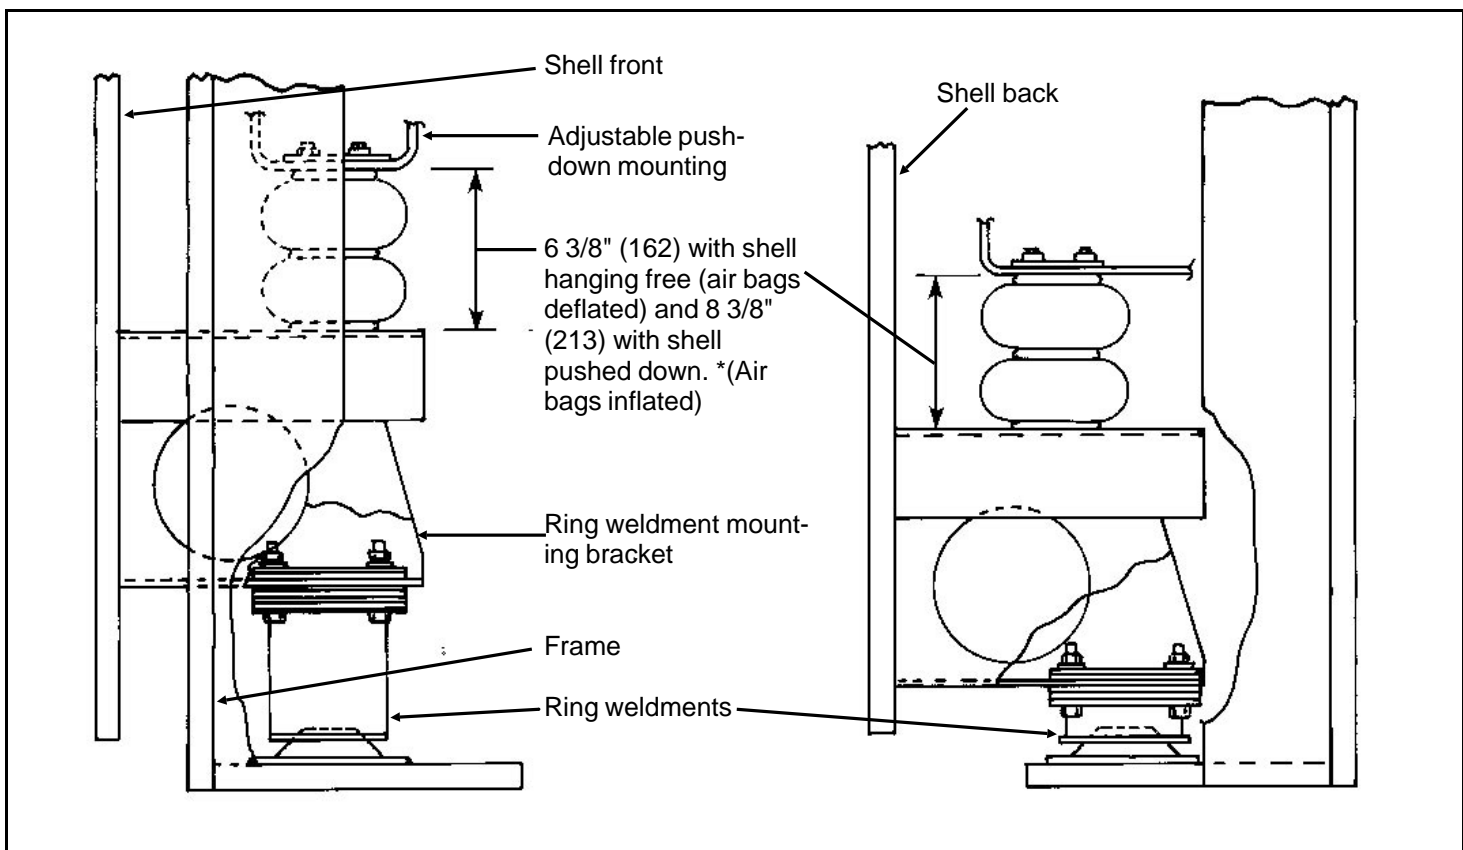

FIGURE 8 (MSSM0208AE)
7. With the *Master switch* set to *off* and the shell hanging free, measure the gap between the push-down mounting bracket and the ring weldment mounting bracket at each location. Adjust the push-down mounting bracket to achieve a gap of 6 3/8" (162). (The gap must not drop below 6 3/8" (162) when shell is not pushed down nor exceed 8 3/8" (213) when it is pushed down as shown in FIGURE 8.)